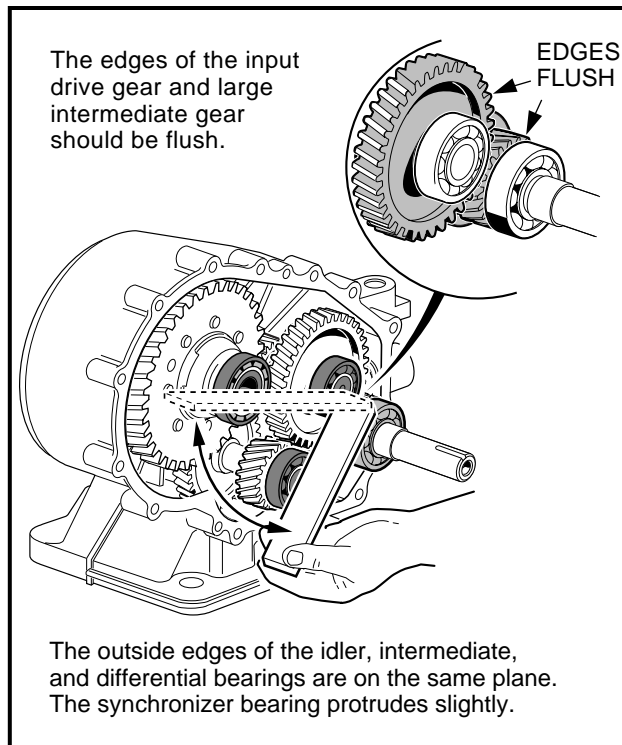

Figure 16-79 Gear Alignment
- 7.6. As a group and while keeping the gears meshed, work all of the gear assemblies into the bores until they are seated. When all of the assemblies are correctly seated, the outside edges of the input drive gear (52) and the intermediate gear (58) (**Figure 16-42, Page 16-18**) should be flush (in the same plane) as shown (**Figure 16-79, Page 16-33**). Also, the outside surfaces of the idler gear bearing, the intermediate gear bearing, and the differential gear bearing should be flush (**Figure 16-79, Page 16-33**). See following **CAUTION**.